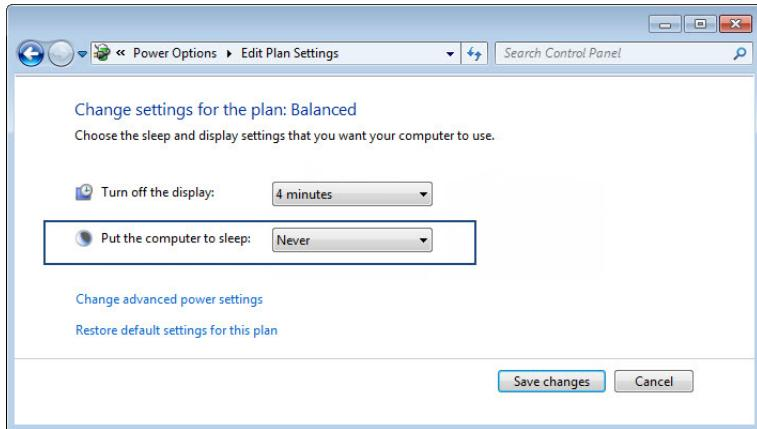

Figure 2-4. Deactivating sleep mode (C)
- 3 Specify that the computer is never put to sleep and save this setting (Figure 2-4).